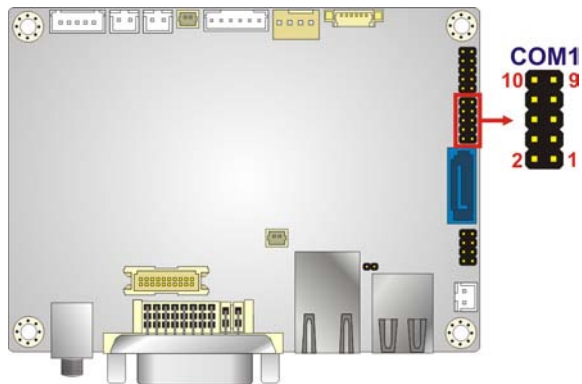

Figure 3-15: RS-232 Serial Port Connector Location
- CN Location: See **Figure 3-15**